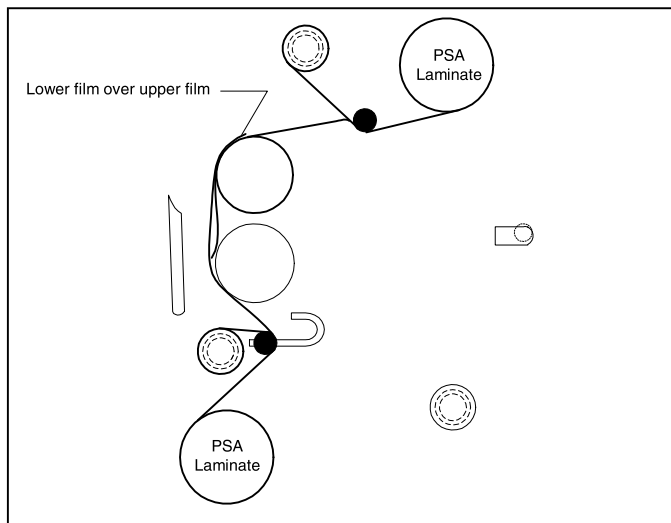

Fig. 22
8. Make two full wraps around the rewind tube, then carefully score the laminate without cutting the release liner. Pull the laminate up towards the film draped over the upper main roller (Figure 22).